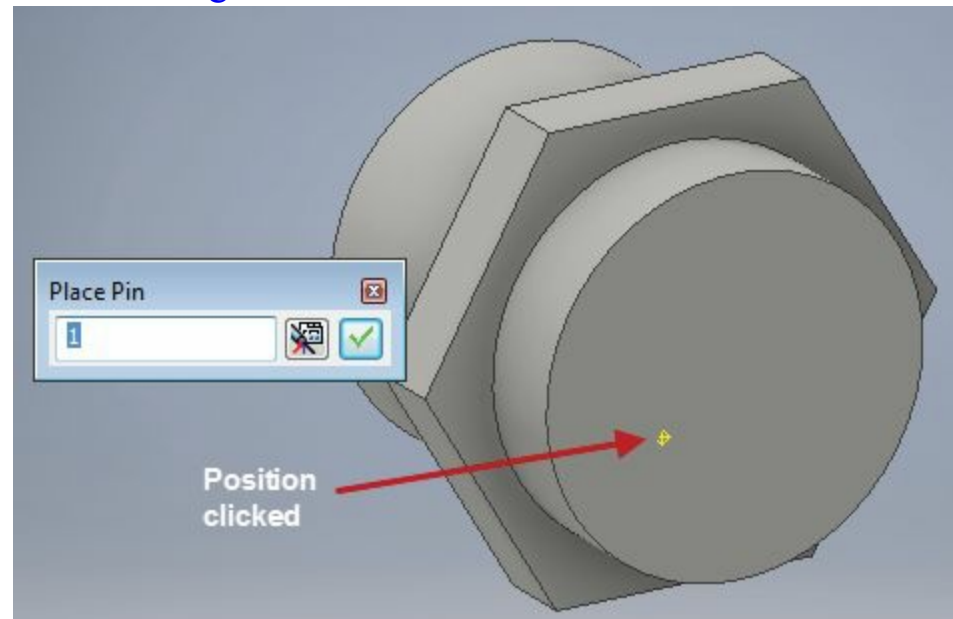

Figure-23. Placing pin
- Click at the desired location on the face of model. The **Place Pin** dialog box will be displayed; refer to Figure-23.